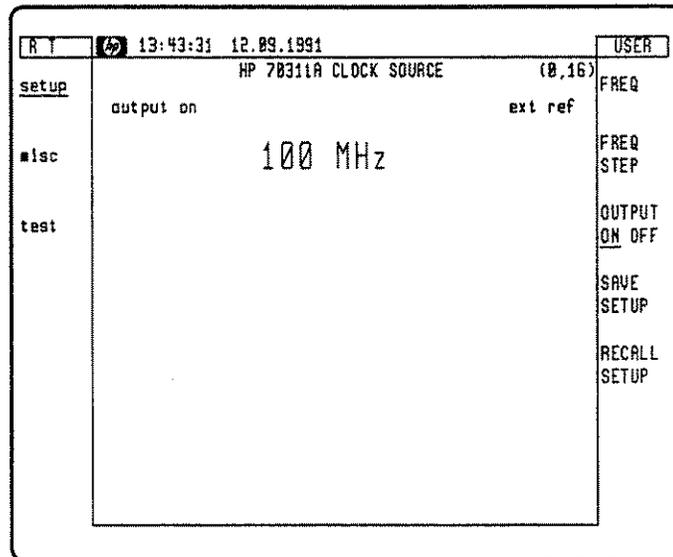

Figure 6-21. Graphics display with External reference
4. Press **INSTR PRESET** on the display and the display in Figure 6-21 should appear.